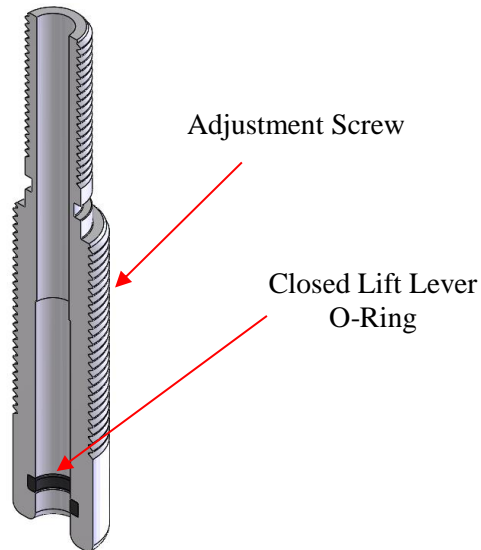

Figure 20: Closed Lift Lever Adjustment Screw
12. If the configuration is a closed lift lever, remove the o-ring within the adjustment screw. See Figure 20.
11. Insert the closed lift lever o-ring into the groove that’s located in the bore of the adjustment screw. See Figure 20.